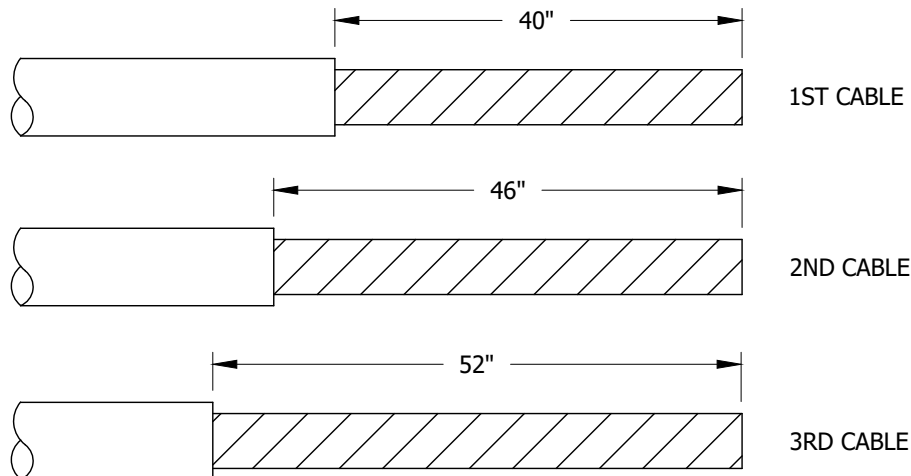

FIGURE 2 Ⓒ
- B. FOR CABLE POLE RUNS OF 1000 KCMIL CABLE AND FOR OTHER RUNS OF 1000 KCMIL CABLE, WHEN A FEEDER TUBE IS USED IT IS NECESSARY TO REMOVE THE CABLE JACKET BEYOND THE END OF THE PULLING GRIP (SEE FIGURE 2). IF THE ENSLEY CABLE EYE IS USED REFER TO STANDARD PRACTICE #215.